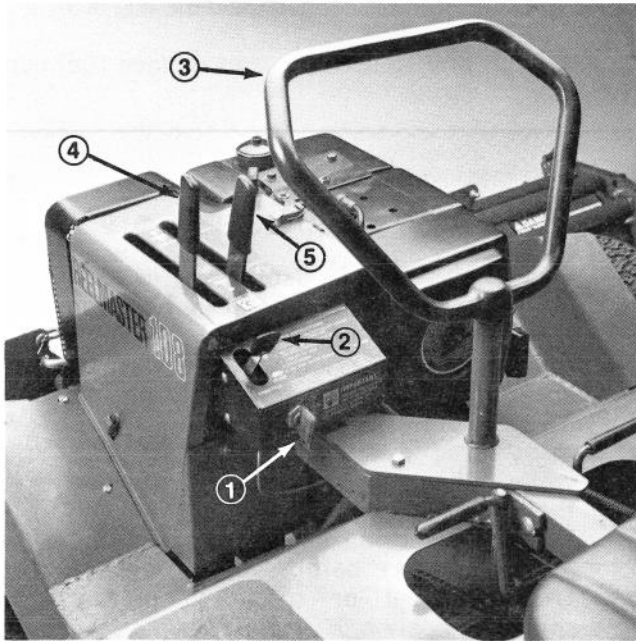

Figure 11
2. Ignition Switch (Fig. 11) — On control panel at left of engine. Turn key to RUN position before pulling recoil starter handle to start engine. Turn key to OFF position to stop engine.
3. Throttle Lever (Fig. 11) — In control panel, left side of engine. Move between FAST and SLOW positions to regulate speed of engine and control speed of mower.
5. Steering Wheel (Fig. 11) — Use to guide machine in proper direction.
6. Traction Control Lever (Fig. 11) — Push forward for forward traction; pull rearward and hold firmly for reverse operation. Return lever neutral before stopping engine and leaving machine.
7. Cutting Unit Control Lever (Fig. 11) — Push forward to ENGAGE reels. Pull rearward to DIS-ENGAGE cutting units.
## STARTING/STOPPING ENGINE (Fig. 11 & 12)